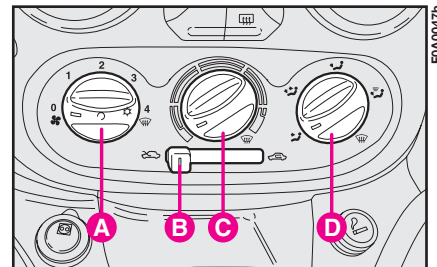

fig. 78
If the vehicle has a climate control system, you are recommended to adjust the controls as described above and press button **A-fig. 78** to speed up the demisting process.
## CONTROLS fig. 78
**IMPORTANT** The manual climate control system is very useful for speeding up the demisting process because it dries the air. Simply adjust the controls for the demisting function (see previous section) and switch the manual climate control system on by pressing knob **A**-fig. 78.
5) Climate control system: press knob **C**-fig. 78.